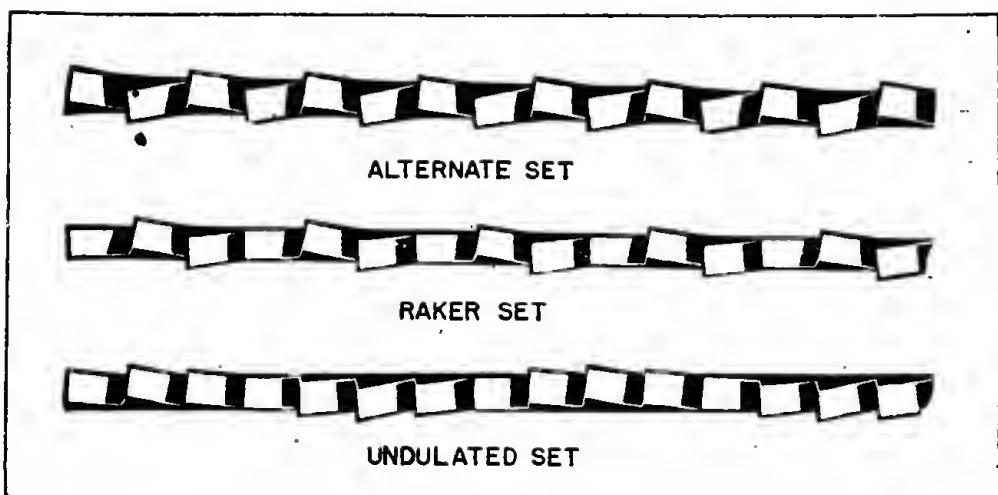

Figure 132. Set of hacksaw blade teeth.
(2) Blades for a hacksaw are made of a hard, tempered steel. They may be all-hard or flexible. The flexible blade has only the teeth tempered while the all-hard blade is all tempered. The teeth may have alternate, raker, or undulated set. (See fig. 132.) There may be 14, 18, 24, or 32 teeth per inch.
(3) The all-hard blade is more rigid and has less tendency to "wander." Therefore, it is used for cutting heavy stock. The flexible blade is less apt